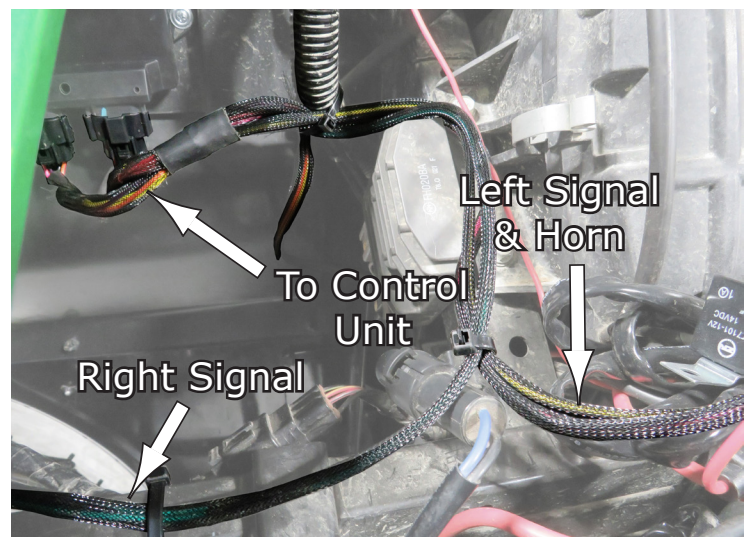

Fig.4
5. Next, go around to the front of the vehicle and pull the harness thru the access area you fed it thru from the dash. As you can see the harness splits into different groups. Some for the Right Signal, the Left Signal and Horn and to the Control Unit. See **Fig.4**.